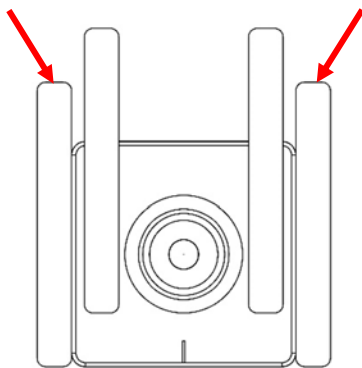

Fig 10
9. Remove the hood deflector and outline the perimeter of the (8) Adhesive Pedestals with masking tape or tape strips to help with final installation. (Fig 10)